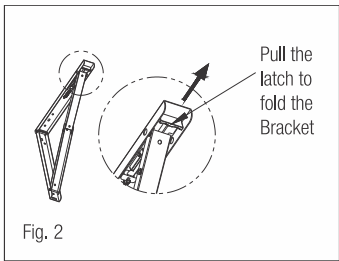

Fig. 2
2. It can be folded and kept while not in use. Pull the black plastic latch as shown in Fig. 2 & 2A the bracket will automatically fold